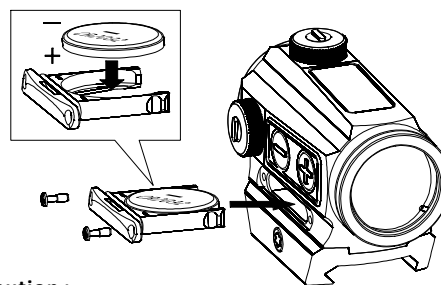

Fig 2-2
2) Installation de batterie(Fig2-2):